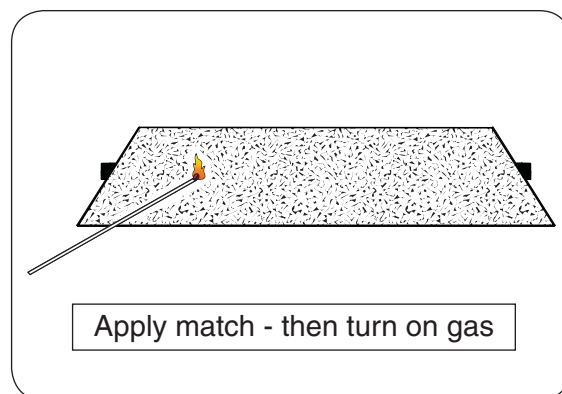

Fig. 15-1
3. Lay a lighted long-stem match on the surface of the decorative media near the burner (**do not hold the match in your hand**) or use a lighted long-necked butane lighter (Fig. 15-1).